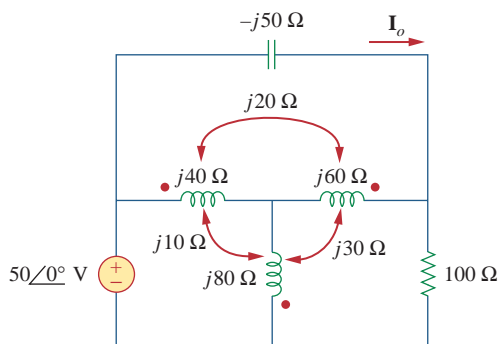

Figure 13.91
- *13.22** Find current I_o in the circuit of Fig. 13.91.